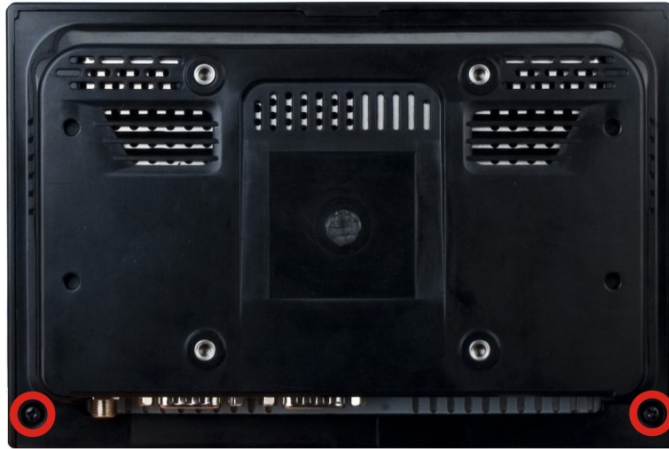

Figure 5-1: Back Cover Retention Screws
Step 3: Remove the two retention screws from the back cover (**Figure 5-1**).